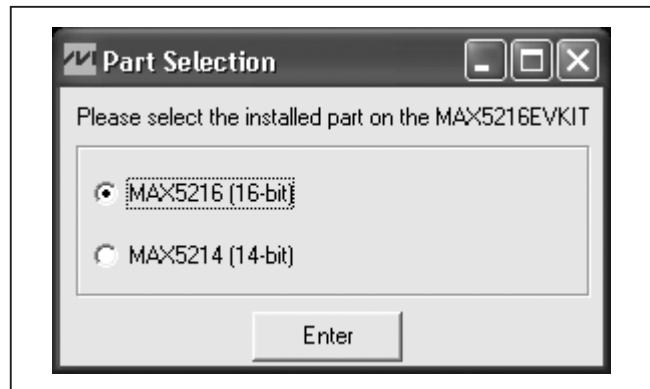
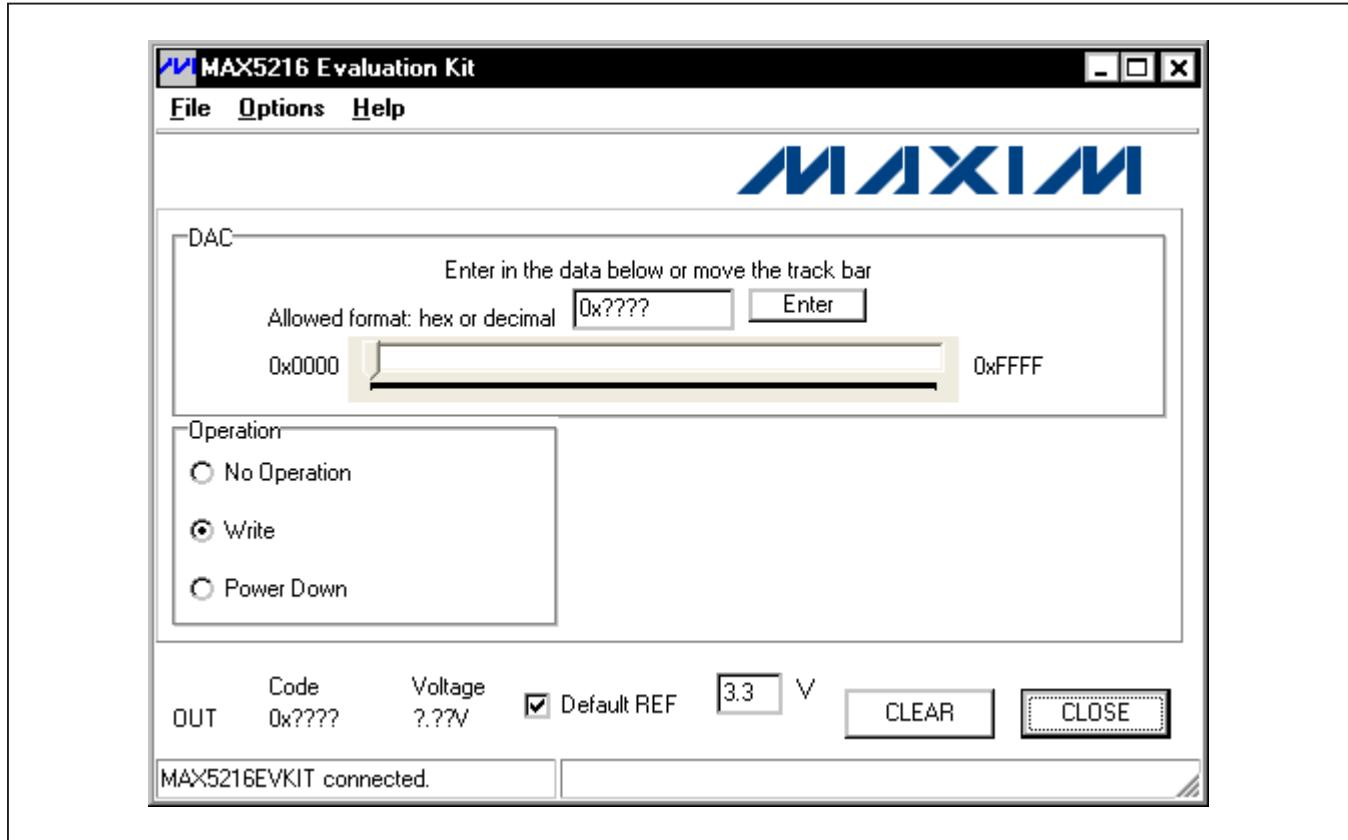

Figure 1. MAX5216 EV Kit Part Selection Window
Figure 2. MAX5216 EV Kit Software Main Window
- 5) Start the EV kit software by opening its icon in the **Start | Programs** menu. The EV kit software (Figure 1) prompts the user to select the installed part on the EV kit. Once selected, the EV kit software main window appears (Figure 2).
When the program first starts up, the user must select the correct part installed on the EV kit (Figure 1). Once the selection has been made, press the **Enter** button and the main software window appears (Figure 2).